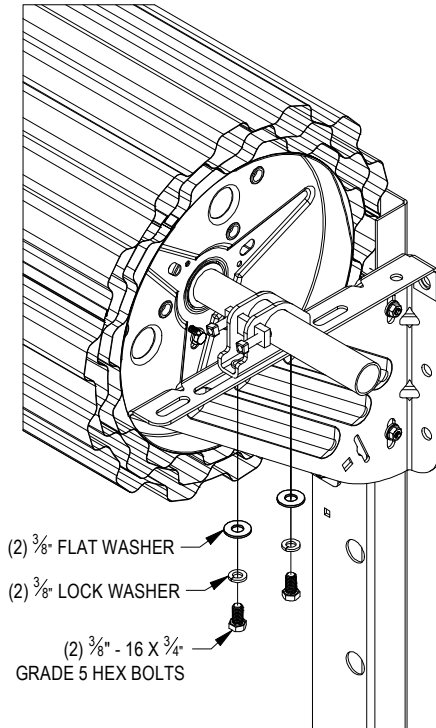

FIGURE 17:
- Attach stamped axle support to door bracket using two (2) each $\frac{3}{8}$ " - 16 x $\frac{3}{4}$ " Grade 5 Hex Bolts, $\frac{3}{8}$ " Lock Washers, and $\frac{3}{8}$ " Flat Washers. **See Figure 17.**